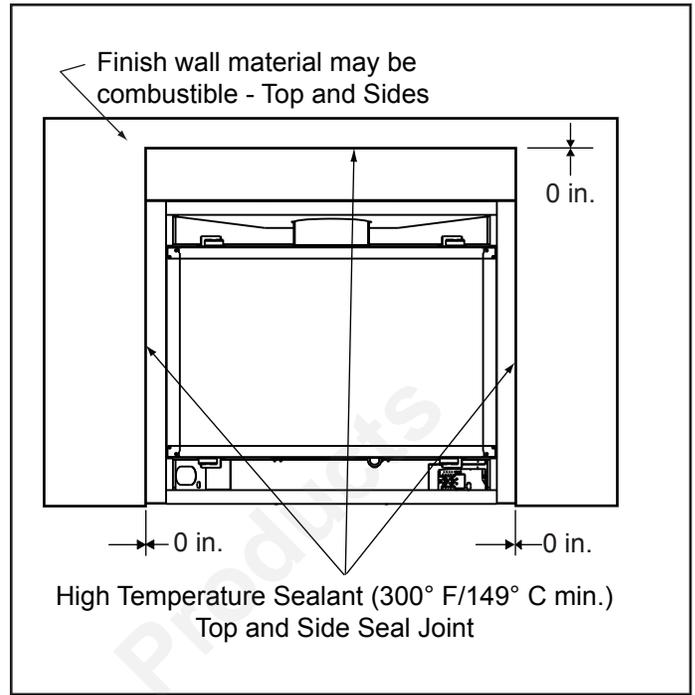

Figure 14.4 Non-combustible Facing Diagram
- Seal joints between the finished wall and appliance top and sides using a 300 °F minimum sealant. Refer to Figure 14.4.